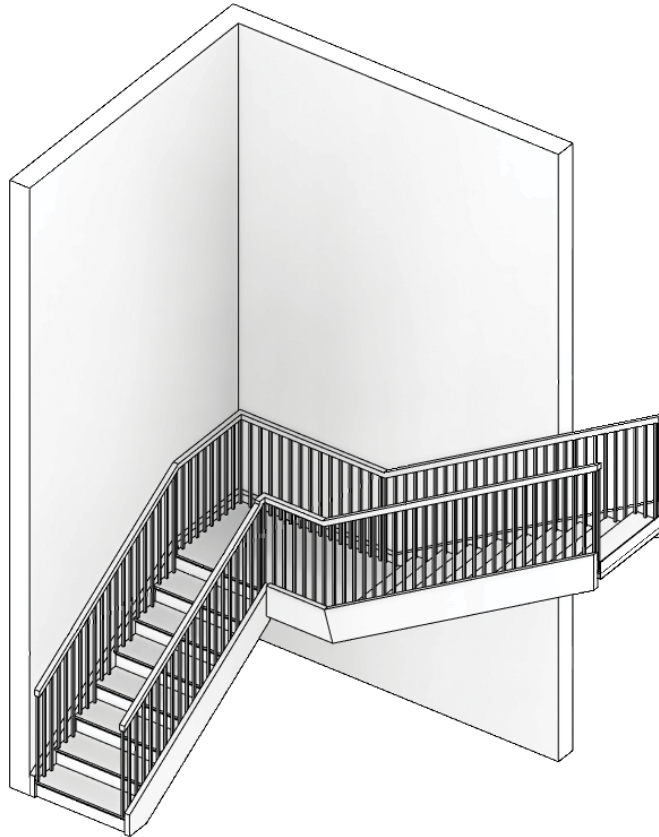

FIGURE 4.10 Completed second stair with landing
10. Click Finish Edit Mode to complete the component stair (Figure 4.10).